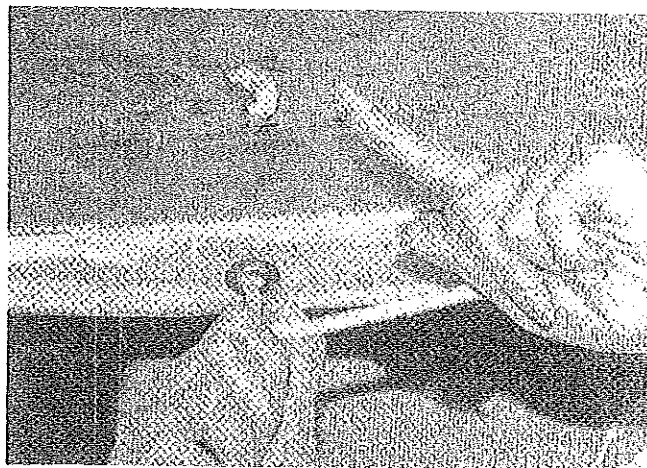

FIGURE 17
2. Pull the tent at the bottom over the bed edge and attach the exposed stretch cords to the nearest hooks on the underside of the bed. See Figure 17. Repeat for other bed end. Be certain to slide the stiffened tent fabric sections under the bed corners between the bed bottom and body rail top. These stiffened corners will prevent the entrance of insects drawn by the folding trailer interior lighting.